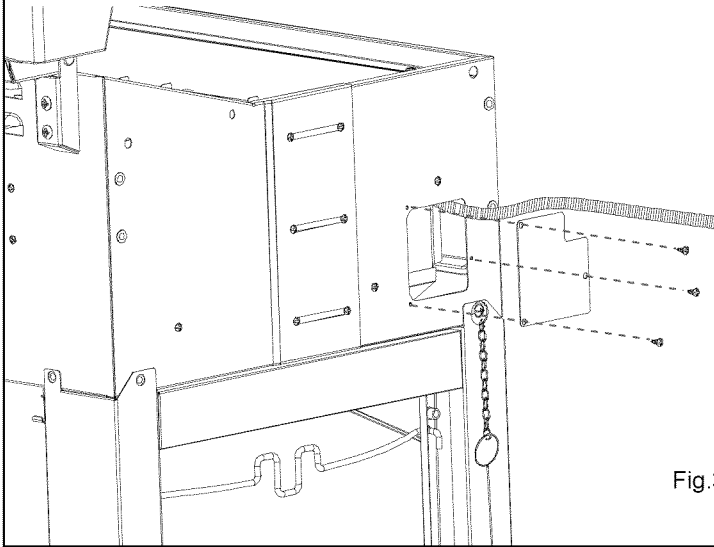

Fig.31
*Locate:* Flexible Venturi Cover Plate, (3) M4 tapping screws
Attach the Flexible Venturi Cover Plate to the cabinet using (3) M4 tapping screws as shown as Fig. 31.